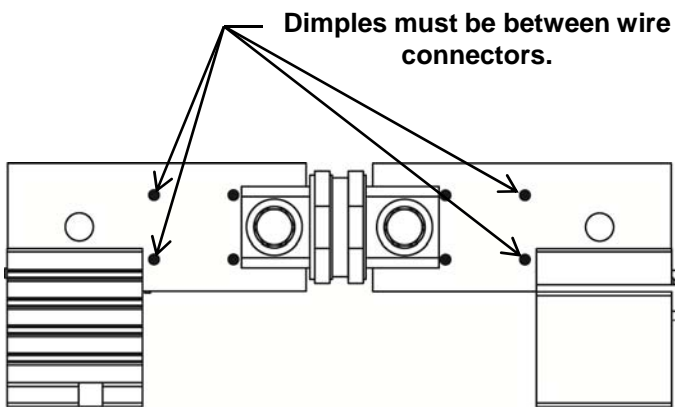

Fig. 5
4. Insert "T" Fuse assembly into fuse clip assemblies until seated as shown in Fig 5 & 6.